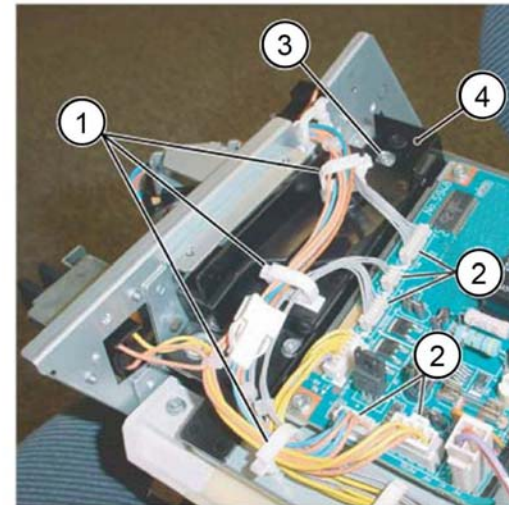

Figure 1 Connector bracket removal
6. Remove the connector bracket, **Figure 1**:
- a. Release the harness from the three clamps (1).
- b. Disconnect the connectors (2).
- c. Remove two screws (3).
- d. Remove the connector bracket (4).